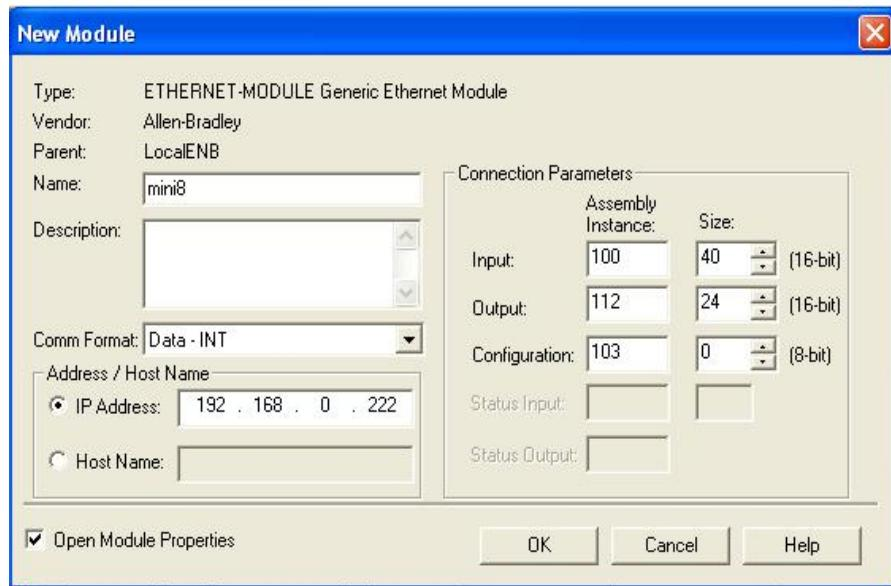

Figure 11-12: New Module
4. In the New Module page that appears (Figure 11-12), enter a name for the module, and set Connection Parameter values:
6. Ensure Input and Output Size of EtherNet Module match exactly the Input and output Definitions (see Figure 11-12 New Module).
7. Ensure Assembly Instance values are supported by the Mini8 controller (see Figure 11-12 New Module)